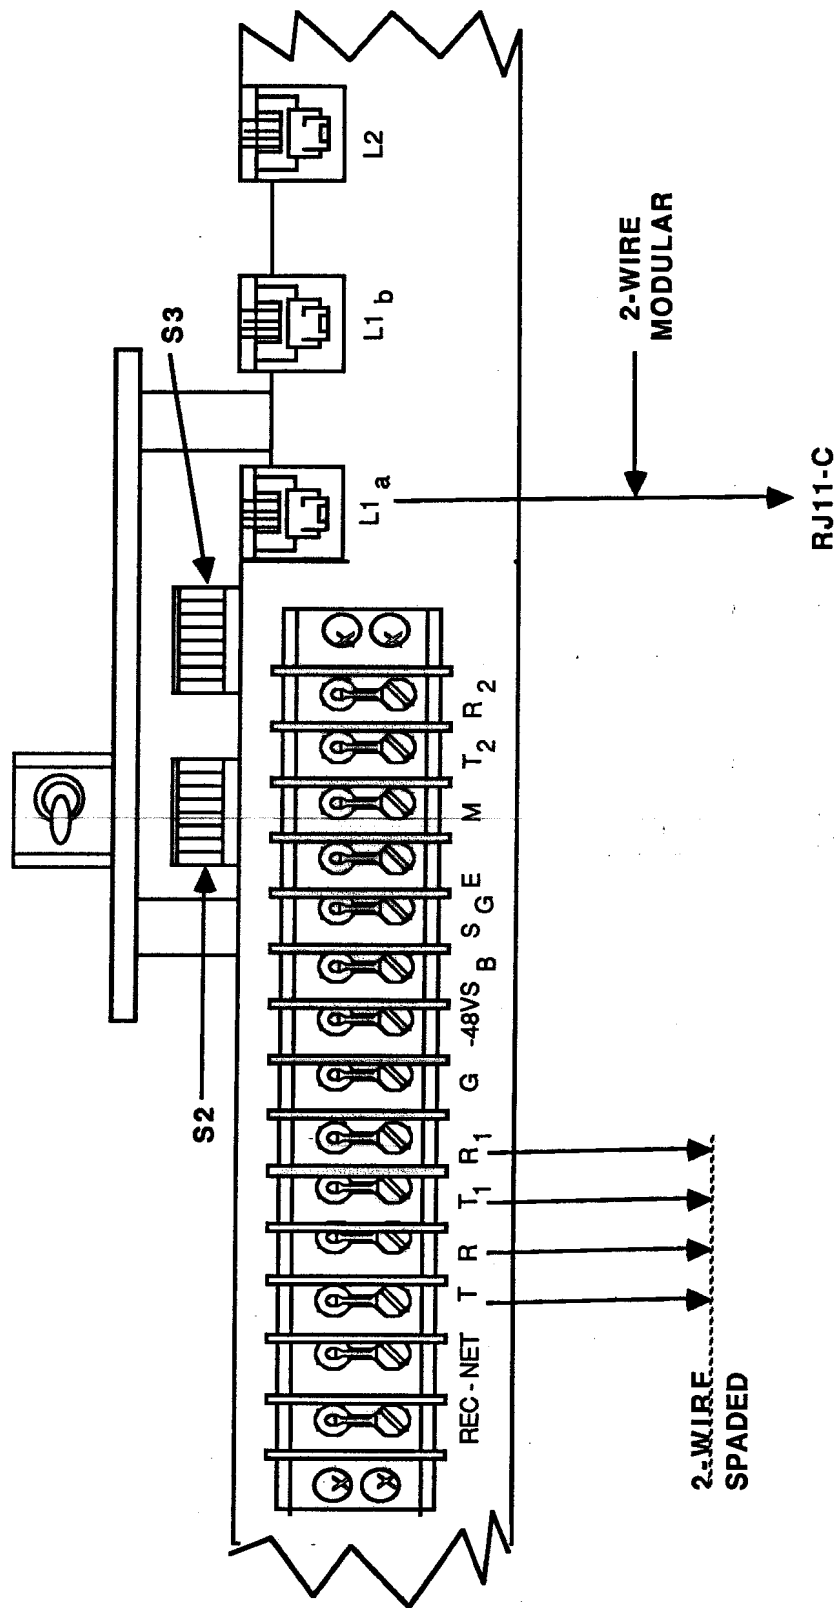

Figure 4-1 — T346 2-WIRE INSTALLATION
2. With the back of the unit facing you, locate Switch **S4** (Figure 4-1). This switch is labeled **600Ω/900Ω** and resides on the top P.C. board.
3. Locate dip switch **S2** (Figure 4-1). This switch is an eight position dip switch which resides on the center P.C. board just inside the back panel.
4. Locate dip switch **S3** (Figure 4-1). This switch is an eight position dip switch which resides on the center P.C. board next to dip switch **S2**.
6. Connect the 2-wire circuit to the unit. There are two methods of making this connection, both of which are described below and referenced in Figure 4-1.
3. Locate dip switch S2 (Figure 4-1). This switch is an eight position dip switch which resides on the center P.C. board just inside the back panel.
4. Locate dip switch S3 (Figure 4-1). This switch is an eight position dip switch which resides on the center P.C. board next to dip switch S2.